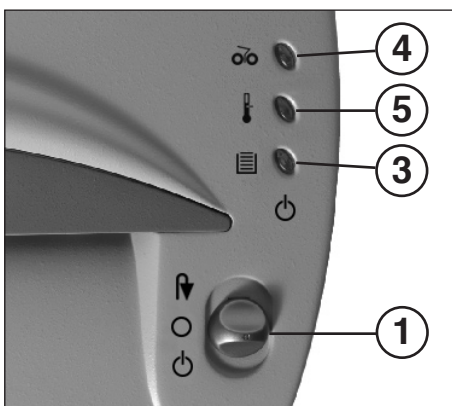

fig. 1
- 1 = Function switch (fig. 1) (on / off / reverse)**
- 3 = Pilot lamp (fig. 1)**
- 4 = Pilot lamp “material jam“ (fig. 1)**
- 5 = Pilot lamp “motor overload“ (fig. 1)**
- Turn the function switch (1) (fig. 1) in position „“.
Please make sure that the shredder is switched off over night (Turn the function switch (1) (fig. 1) in position „O“).
- The pilot lamp (4) (fig. 1) lights up.
- Turn the function switch (1) (fig. 1) **briefly** to position „R“ (material will be released), then in position „O“.
- The pilot lamp (4) (fig. 1) goes out.
- Tear off the excess paper over the feed slot and then turn the function switch (1) (fig. 1) to position „O“.
- Turn the function switch (1) (fig. 1) in position „O“.
The motor shuts down automatically, should it become overloaded. The pilot lamp (5) (fig. 1) lights up. Turn the machine off with the function switch (1) (fig. 1) (position „O“).